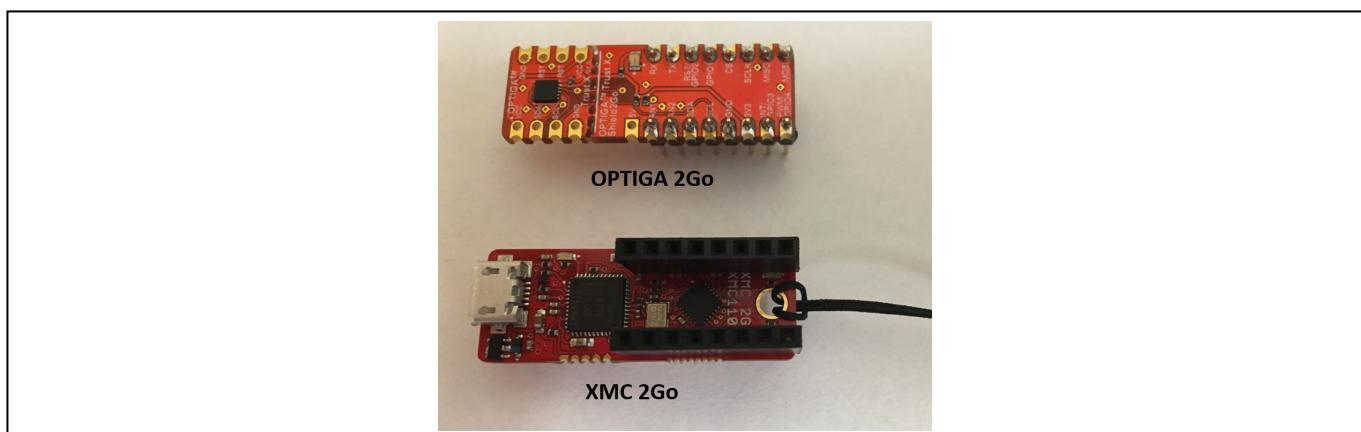
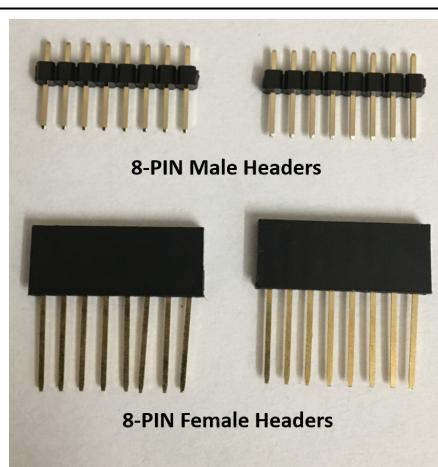

Figure 6 **XMC and OPTIGA™ 2Go™ series boards**
Figure 7 **8-PIN Male and Female Headers**
- Hardware Requirements, shown in Figure 6 and Figure 7